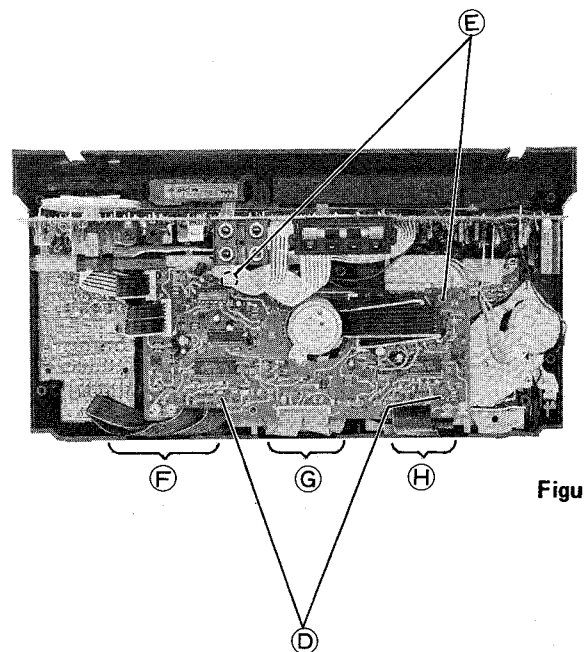

Figure 5
1. Untwist hook (D). (Figure 5)
2. While pushing each point of two connects (shown by arrows) on main P.C. Board and four connectors on logic P.C. Board, remove each connector by pulling it. (Figure 5)
4. Lift up P.C. Board from hook (D) side, remove hook (E) points from holes, and then logic P.C. Board will be removed. (Figure 5)